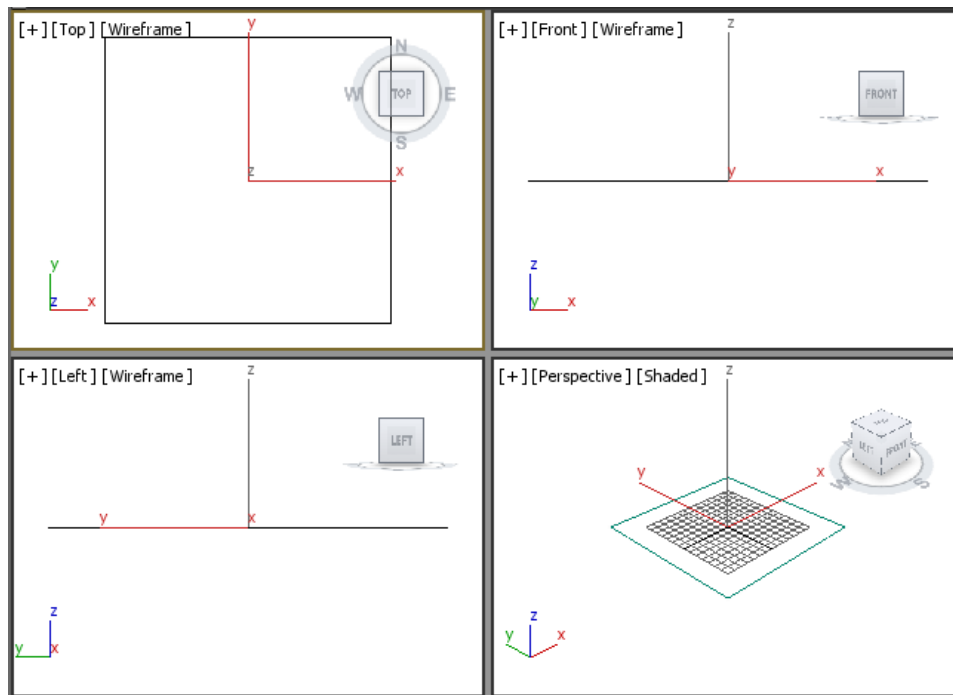

Figure 5-2 The rectangle created for tabletop
4. Expand the **Keyboard Entry** rollout and set the value **200** in both the **Length** and **Width** spinners. Next, choose the **Create** button; the rectangle is created for the tabletop, as shown in Figure 5-2.